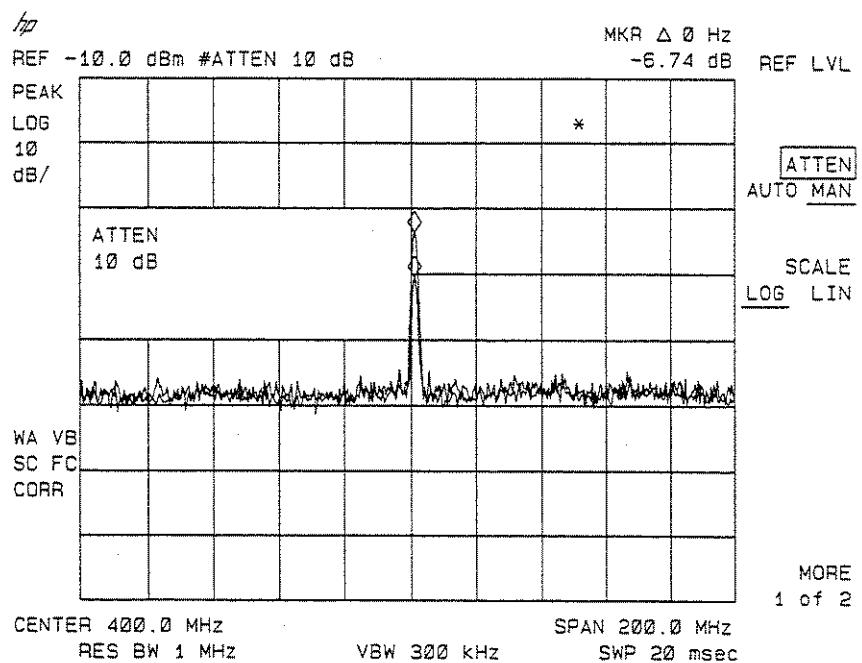
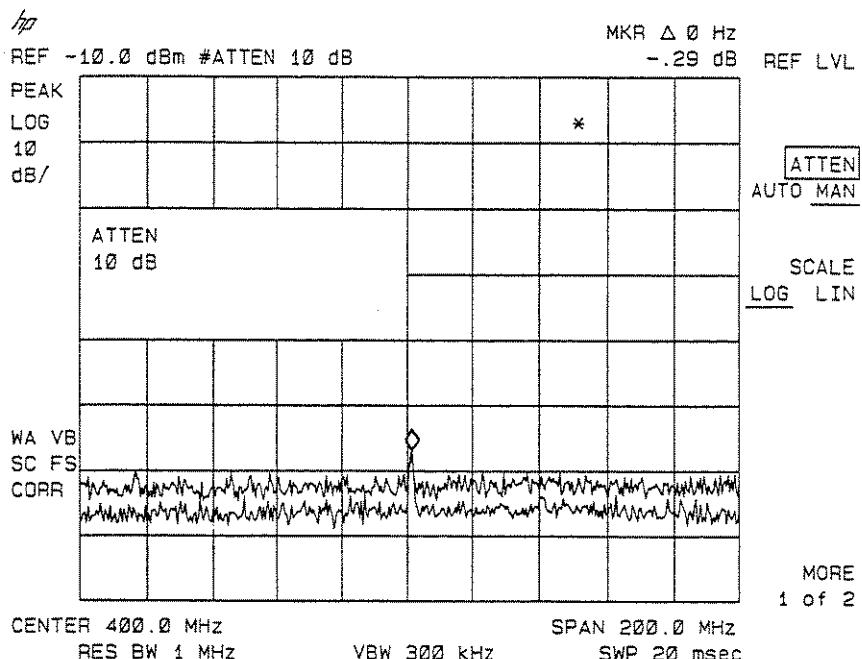

Figure 2-22. RF Attenuation of 10 dB
Figure 2-23. No Harmonic Distortion
5. Next, increase the RF attenuation by 10 dB: press [AMPLITUDE], [ATTEN AUTO MAN], and the step-up key (\blacktriangle) once. (See Figure 2-22.)
If the responses in trace A and trace B differ, as in Figure 2-22, then attenuation is required. If the distortion is not caused internally, there is no change in the signal level. For example, the signal amplitude in Figure 2-23 is not high enough to cause internal distortion in the analyzer.